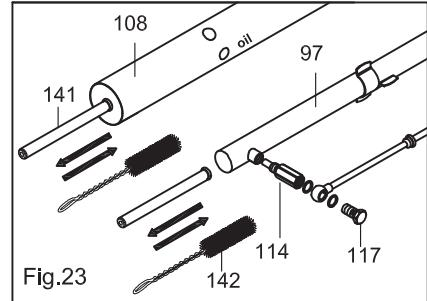

Fig.23
- d) Remove carbon residue in resonator tube (97), solution socket (114), dosage nozzle (117) and fog tube (108) with the scraper (141) and wire brush (142). (Fig. 23)